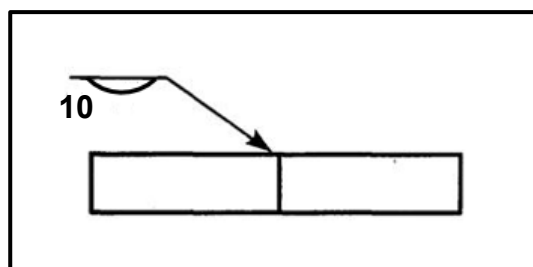

FIGURE 5.3
- 5.3 FIGURE 5.3 below shows a welded joint with a welding symbol.